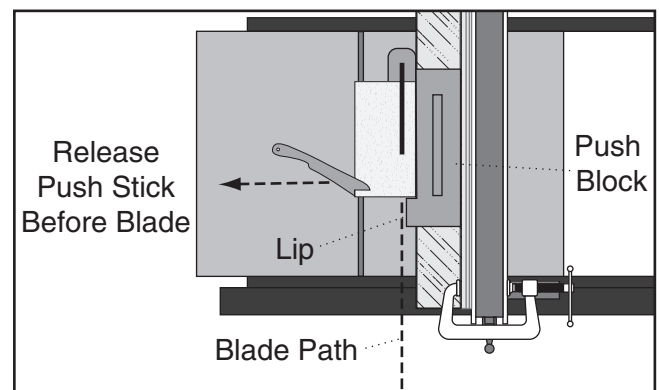

Figure 92. Ripping with push block.
6. Guide workpiece rest of way through cut with push block, as shown in **Figure 92**.